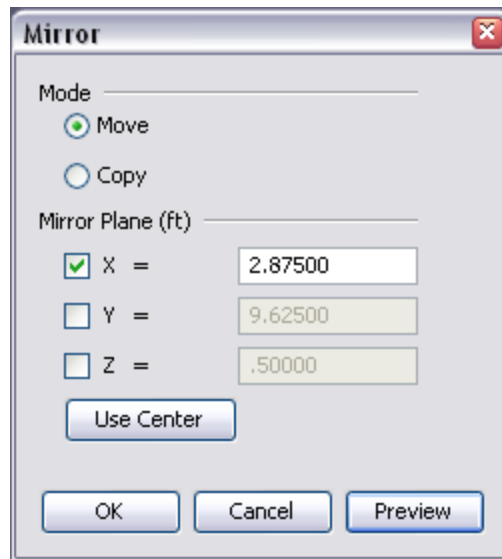

Figure 112. The mirror dialog
3. This will show the Mirror dialog as in Figure 112.